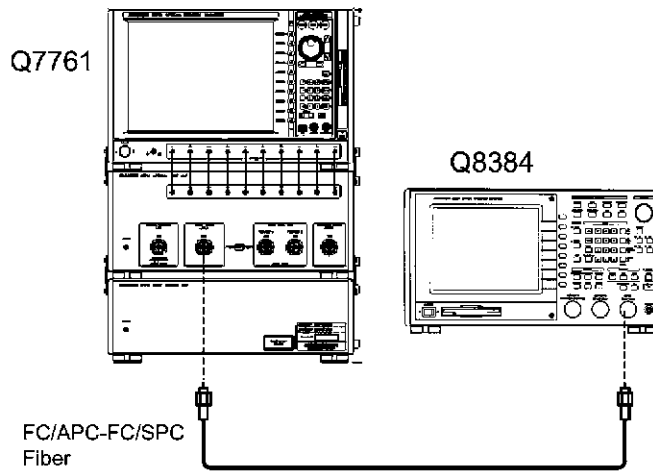

Figure 2-14 Connection for Internal Light Source Output Verification
3. Connect equipment as shown in Figure 2-14.